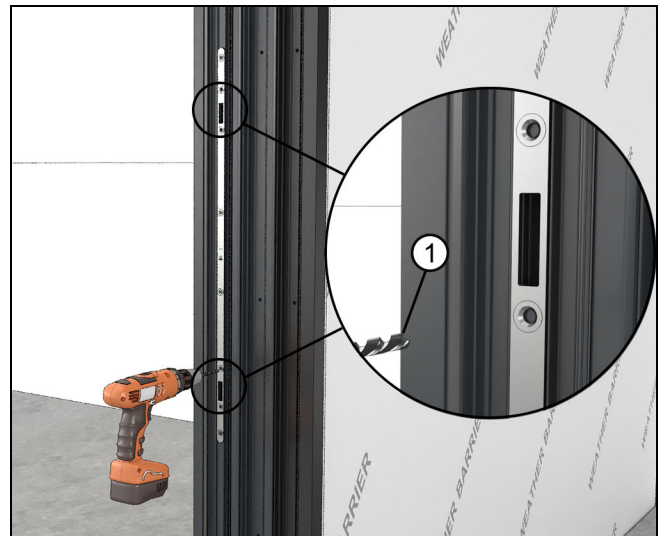

Figure 75
11. On uni-directional units, pre-drill through the open holes in the strike plate (above and below each strike) with a 3/16"(5) drill bit. See Figure 75.